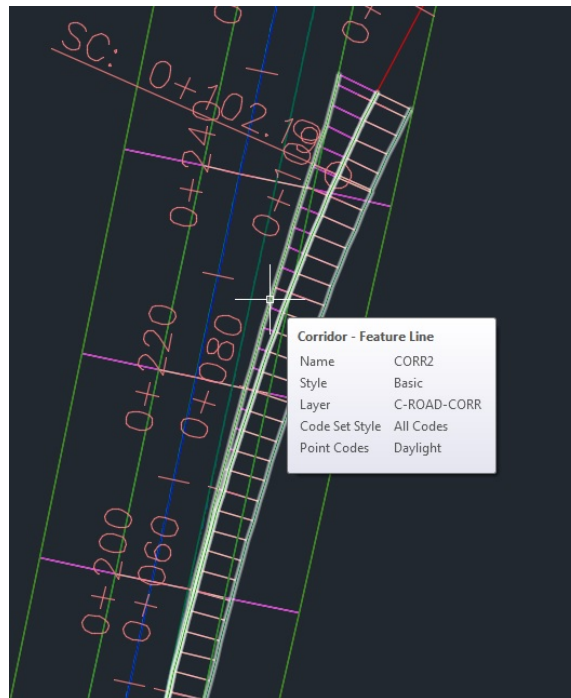

Fig. 11.
9. Create a Polyline3D as the intersection between corridors CORR1 and CORR2. See fig. 11.